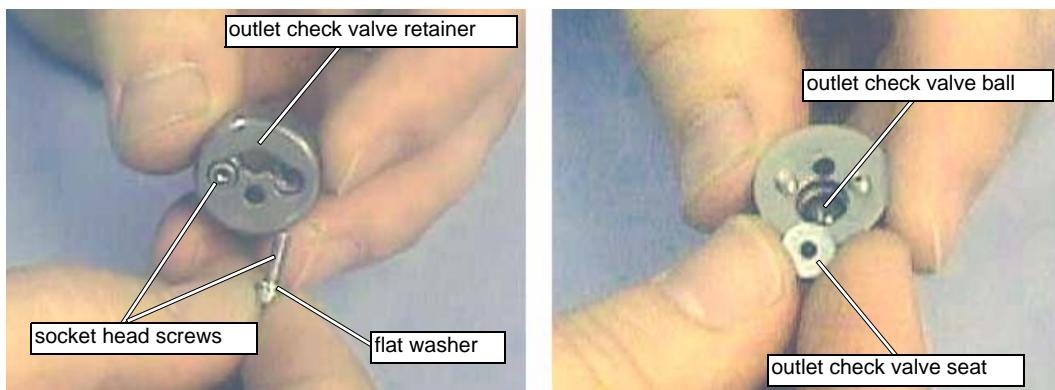

Figure 5-24: Inserting the Socket Head Screws
- Note:** The outlet side of the Check Valve Body has three holes in the end of the stem (Figure 5-24). The notch and chamfer on one side of the Static Backup Ring faces toward the Check Valve Body.
3. Apply anti-seize lubricant to the threads of the two Socket Head Screws. Install the Flat Washers and the two Socket Head Screws through the Outlet Check Valve Retainer (Figure 5-24):